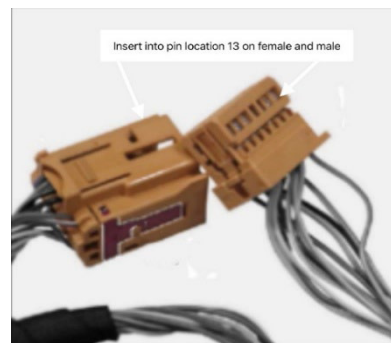

Figure 17. Rear Crossover Connector
2. Continue overlay by inserting overlay wire into pin 13 of the female connector (Figure 17) then run along the existing harness to BCM2.